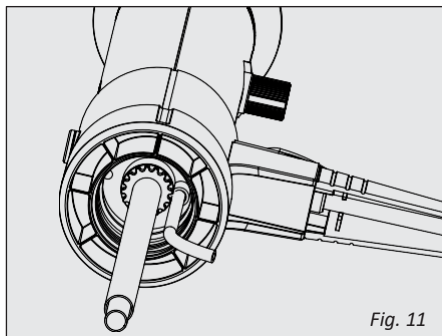

Fig. 11
1. Put out the Re-circulation tube & telescopic tube (Fig. 11)